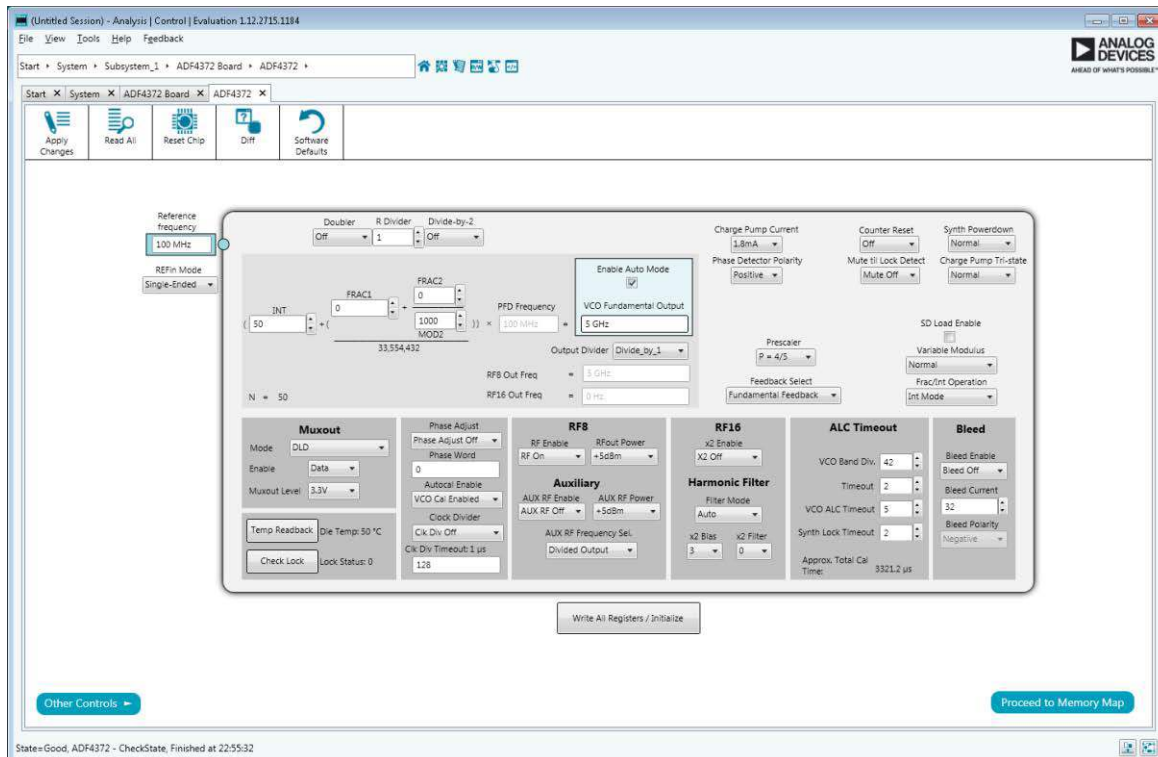
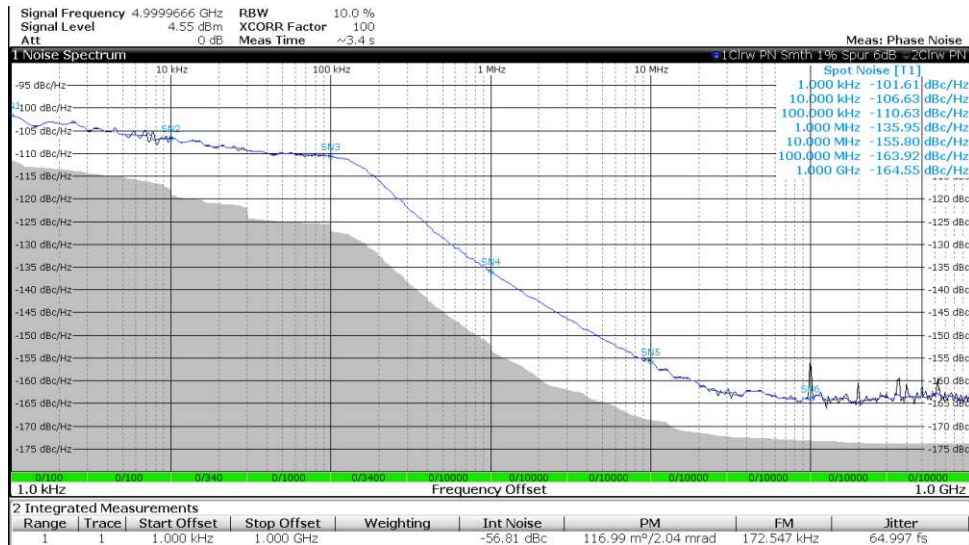

Figure 7. Software Front Panel Display, Main Controls
Figure 8. Single Sideband Phase Noise
3. Double click the **ADF4372** icon that appears on the **ADF4372 Board** tab to open the main control window shown in Figure 7.
The main controls are available in the high level register map shown in Figure 7. To modify registers, perform the following steps:
Run the software and set the VCO Fundamental Output box to 5 GHz (see Figure 7). Measure the output spectrum and single sideband phase noise on a spectrum analyzer. Figure 8 shows a phase noise plot of the SMA RF8P pin equal to 5 GHz.